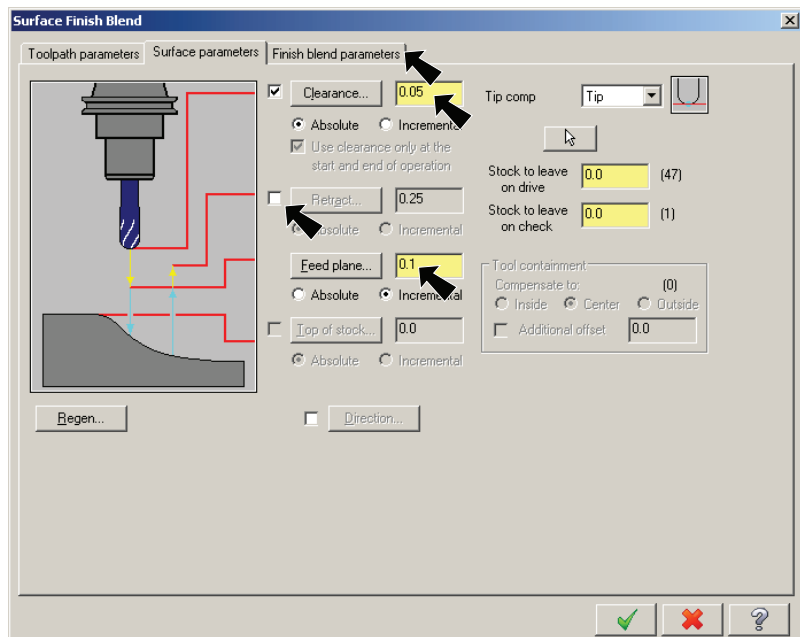

Fig. 30
Step 16. Check **Clearance** and set: **.05** and click **Absolute**, **Fig. 30**.